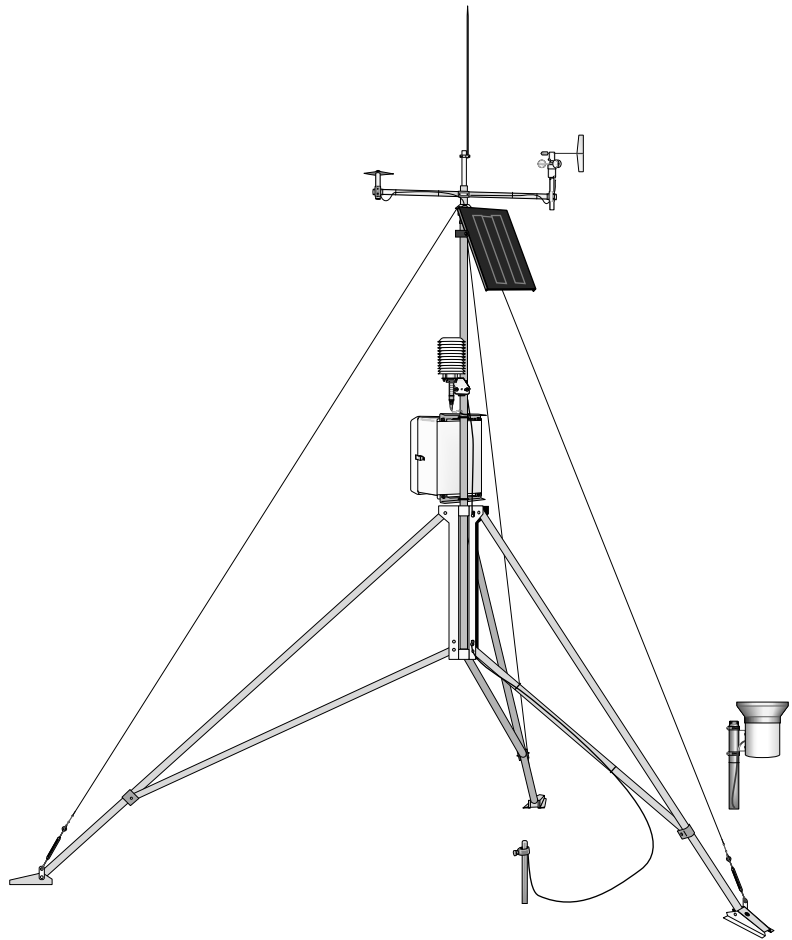

FIGURE 2-1. CM10 Weather Station
The CM6 and CM10 tripods provide a support structure for mounting weather station components. Figure 2-1 shows a typical guyed CM10 tripod weather station equipped with instrumentation enclosure, meteorological sensors, and solar panel.
Ground the tripod and shown in Figures 2-1, 2-4, and 2-5.
4. Attach the lightning rod to the mast as shown in Figure 2-1. If the weather station includes an 019ALU crossarm, attach it to the mast first. Loosen the two screws on the lightning rod mounting bracket. Position the mounting bracket 4 inches down from the top of the mast, then tighten both screws evenly. Make sure the lightning rod set screw is tight.